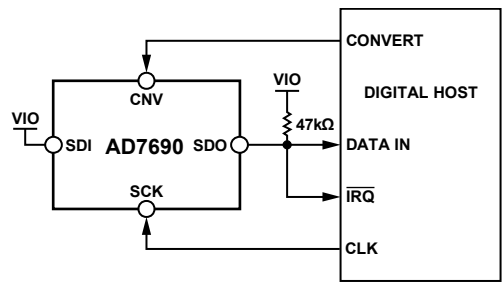
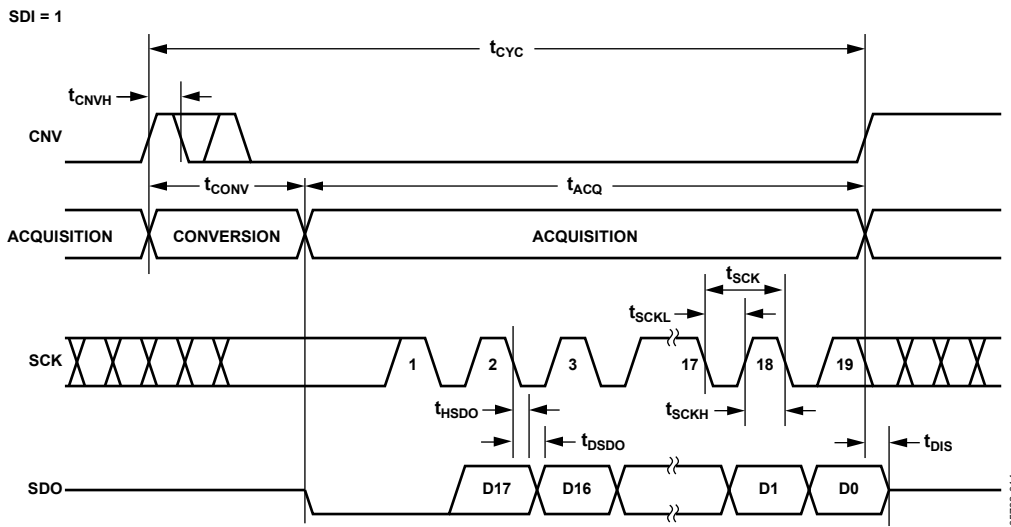
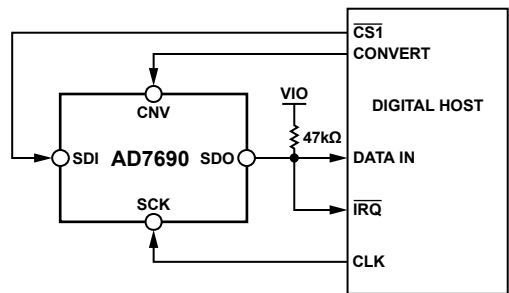
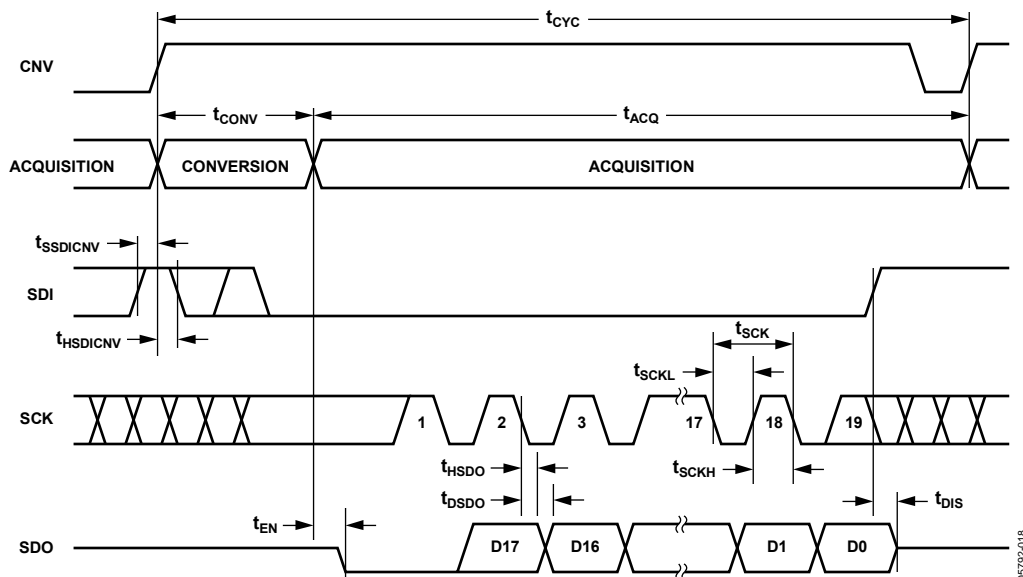

Figure 36. 3-Wire  $\overline{\text{CS}}$  Mode with Busy Indicator Connection Diagram (SDI High)
Figure 37. 3-Wire  $\overline{\text{CS}}$  Mode with Busy Indicator Serial Interface Timing (SDI High)
Figure 40. 4-Wire  $\overline{\text{CS}}$  Mode with Busy Indicator Connection Diagram
Figure 41. 4-Wire  $\overline{\text{CS}}$  Mode with Busy Indicator Serial Interface Timing
- In  $\overline{CS}$  mode if CNV or SDI is low when the ADC conversion ends (see Figure 37 and Figure 41).
The connection diagram is shown in Figure 36, and the corresponding timing is given in Figure 37.
The connection diagram is shown in Figure 40, and the corresponding timing is given in Figure 41.